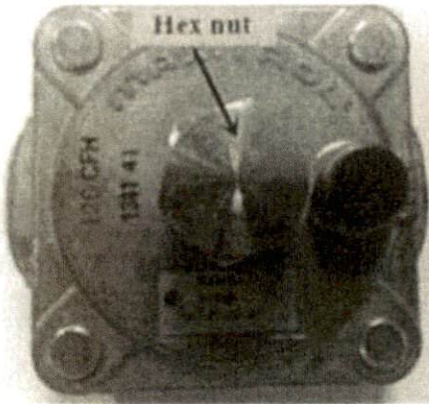
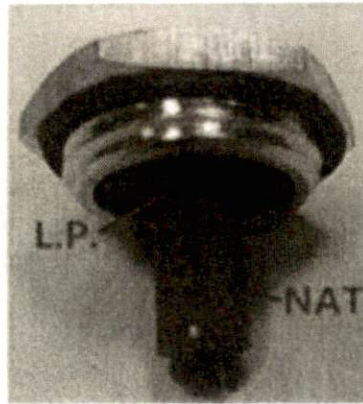

Fig. 8
Fig. 9
2. Screw the hex nut (Fig. 8) before connect air intake, ensure gas mark (Fig. 9) on the plastic core match with connected gas source, if not, then pull out the plastic core and change another head, insert it again. The same as exchanging gas source.